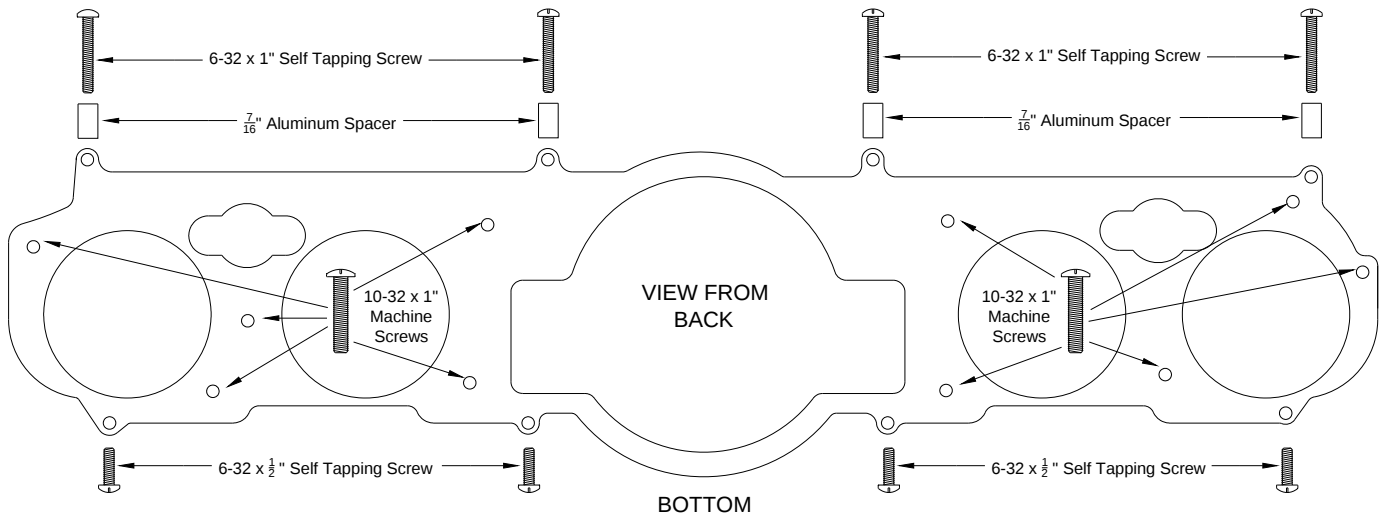

Figure 3: Mounting Panel
6. Use a #1 Phillips screwdriver to secure the mounting panel to the plastic gauge bezel with the 6-32 F-type self-tapping screws. The $\frac{1}{2}$ " long screws secure the bottom of the panel and the 1" long screws secure the top of the panel. Place the $\frac{7}{16}$ " aluminum spacers between the mounting panel and the plastic gauge bezel on the top four mounting holes. See Figures 3, 4 & 5.